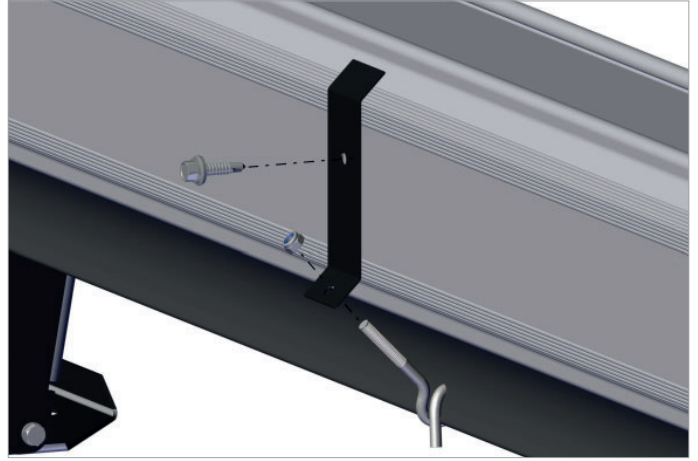

Fig. 4.3.9 Mounting the rope bracket
- Mount the rope bracket(s) using self-tapping screws $\frac{1}{4} \times 1$ in. (6.3 x 25 mm). Mount the rope brackets equally divided over the rail. Refer to fig. 4.3.9.